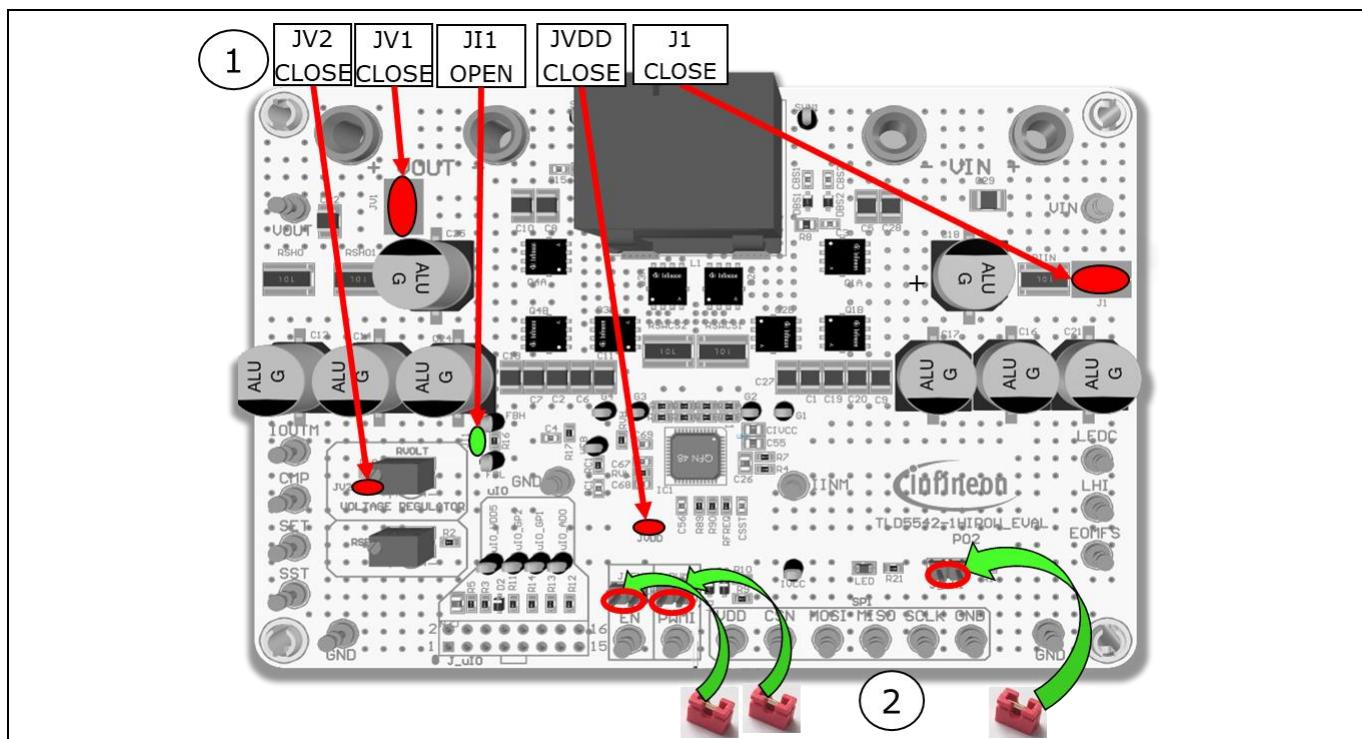

Figure 6 Jumpers to be set for voltage regulator mode no µC
1. Configure all solder jumpers as shown in Figure 6